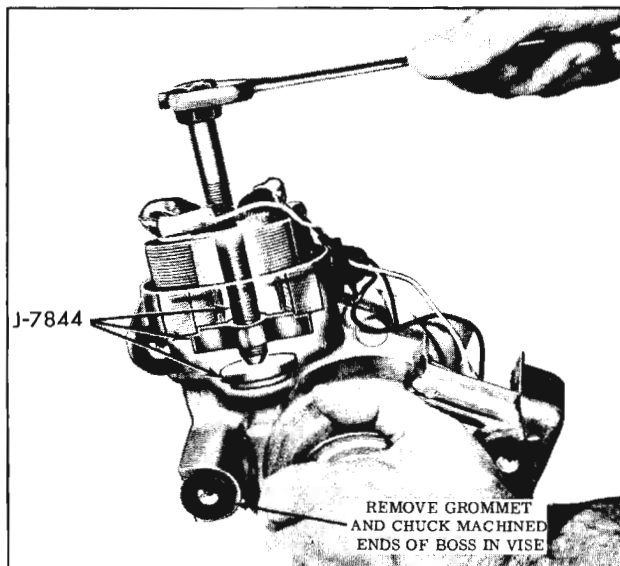

Fig. 14-81 Removing Field Coil
6. Remove field coil with Tool J-7844 as shown in Fig. 14-81.